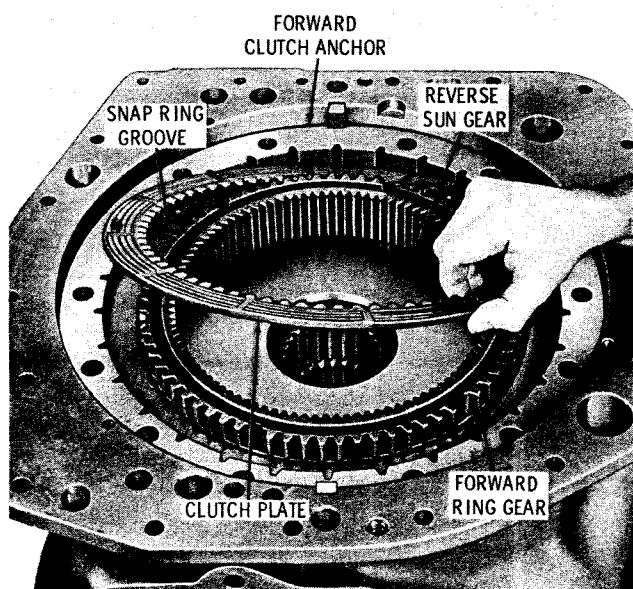

Fig. 7-28. Installing forward clutch internal-splined plate (5631 models)
(6) Install the forward clutch anchor (fig. 7-28). Install one internal-splined clutch plate.
(7) Install the forward ring gear, shouldered side downward (fig. 7-28). Install an external-splined clutch plate, an internal-splined plate and another external-splined plate.
(8) Install the large internal snap ring into the groove in the forward clutch anchor (fig. 7-28). Install the reverse sun gear.
(9) Beginning with an internal-splined clutch plate, and alternating with external-splined plates, install two plates of each type (fig. 7-28). Note that the last plate to be installed is external splined.